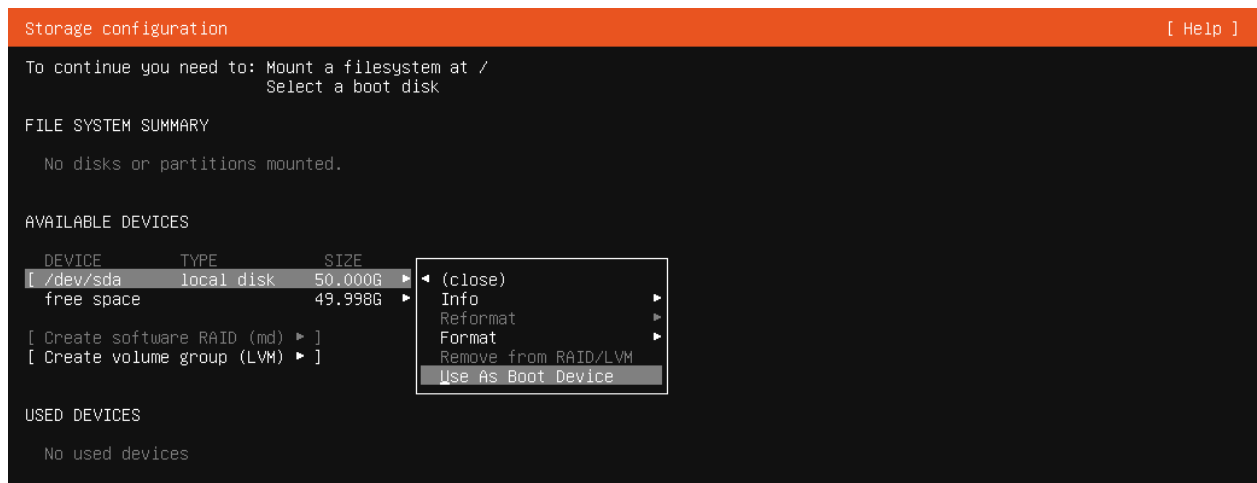

Figure 2.4: Select boot device
- For the drive intended for the OS, select ‘Use As Boot Device’. Compare figure 2.4.